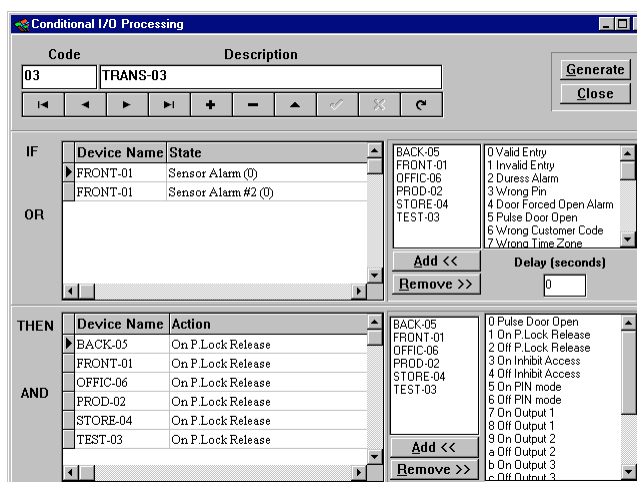

Figure 7.2 : Conditional I/O Processing.
6. Upon completion your screen should look like figure 7.2.